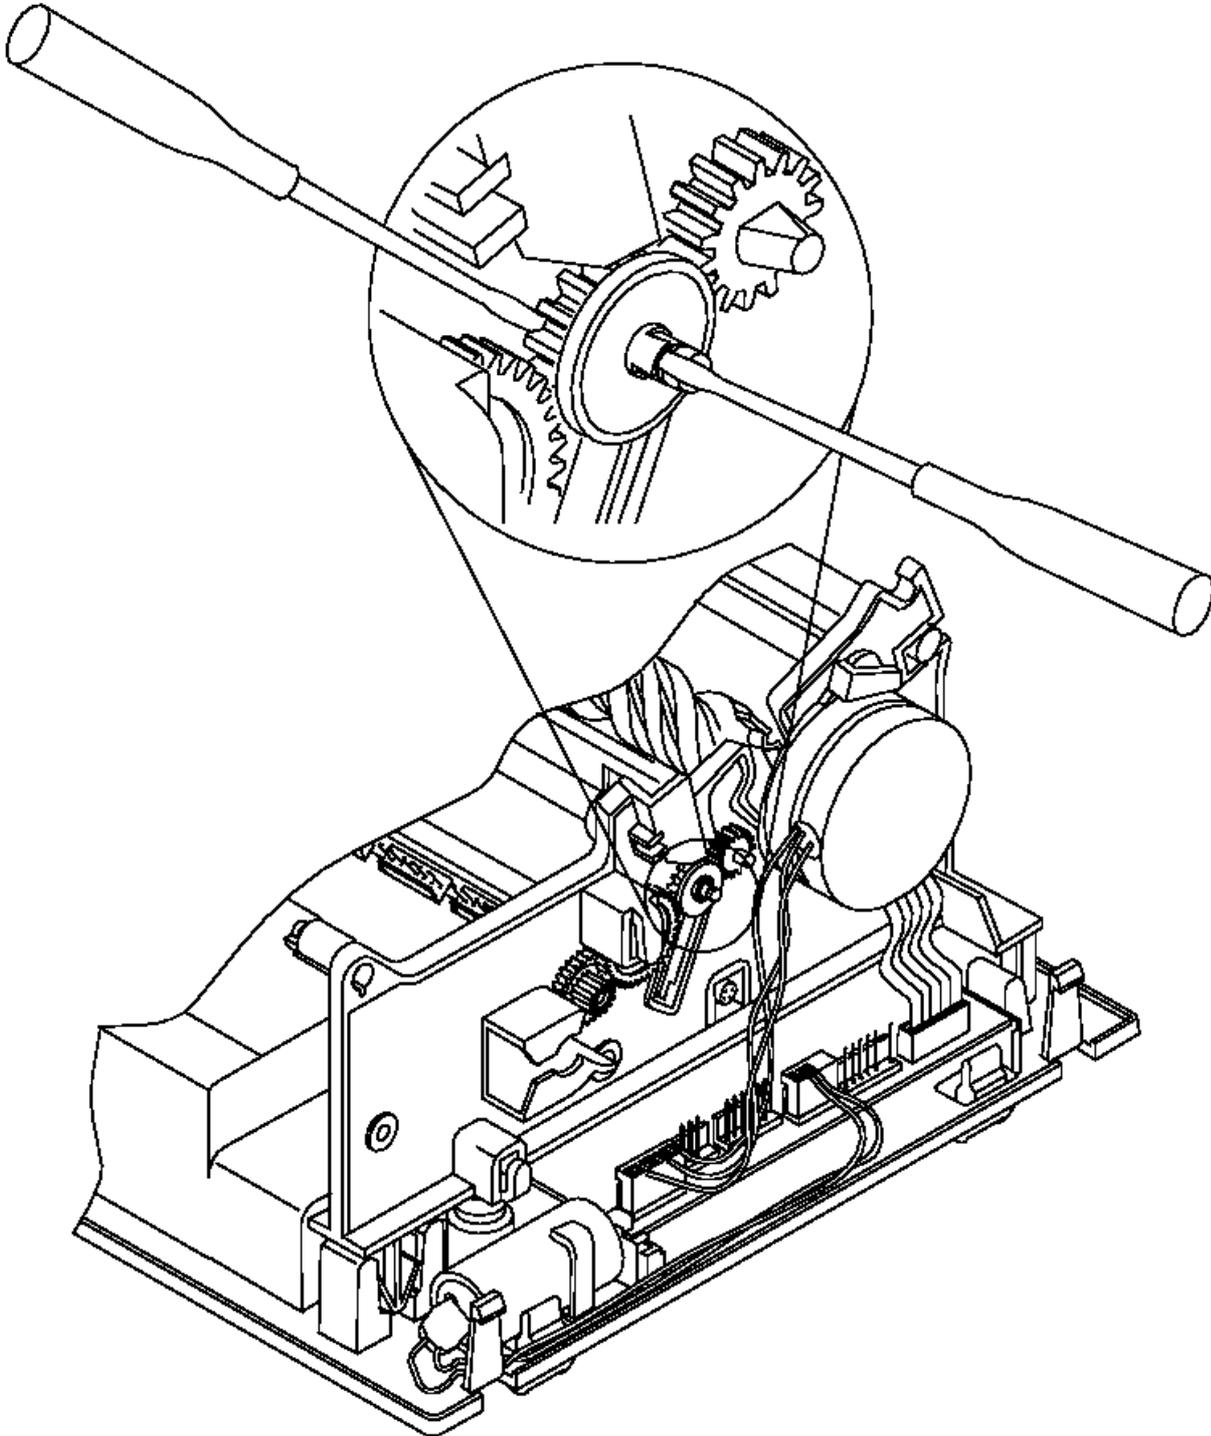

Figure 6-66. Removing DI gears
3. Remove gear (1) by using a small screwdriver to gently pry outward on the plastic retainer holding the gear to the shaft. Use a second screwdriver to pry the gear off the shaft. See Figure 6-66 in topic 6.38.16.2.
4. Remove gears (2),(3), and (4), in that order, by simply sliding them off their shaft.